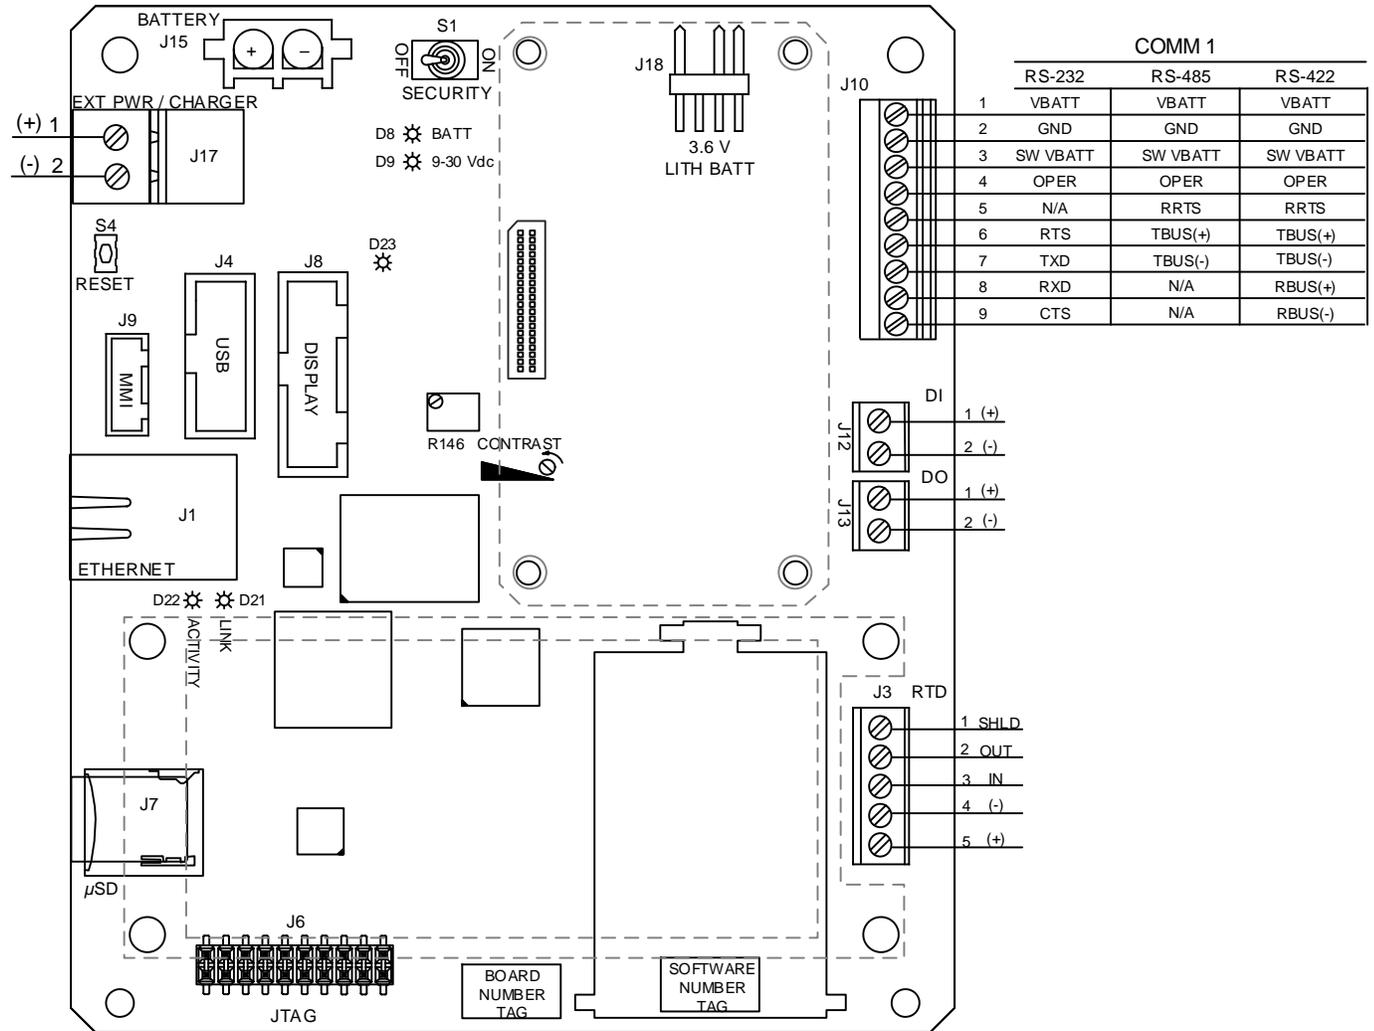

Figure 93: μ FLO^{G5} board field wiring connections
4. Check for a poor cable connection in the cable between the μ FLO^{G5}, the J15 battery and the J17 charging source (Figure 93). Verify all field wiring screw terminals are tight.
7. Check the solar panel wiring to be certain it is correctly connected to the associated J17 charger input termination block (Figure 93, on page 129).
2. Check the battery cable. It must make a good, secure electrical connection with the flow computer board's battery connector, J15 (Figure 93, *μ FLOG5 board*, on page 129).